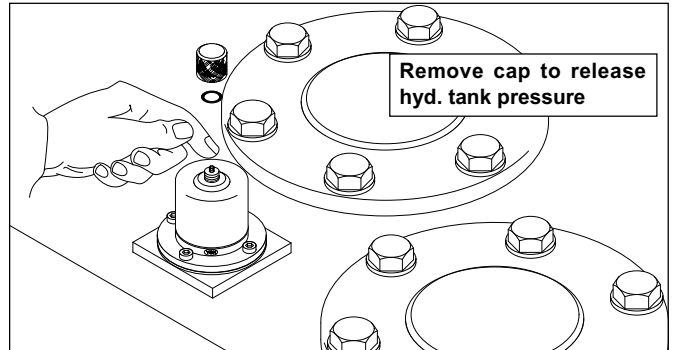

FIGURE 4.48B
6. Release hydraulic tank pressure. See Fig. 4.48B.
12. Remove "O"-Ring, bypass valve, and filter element from hydraulic tank. See Figure 4.48B